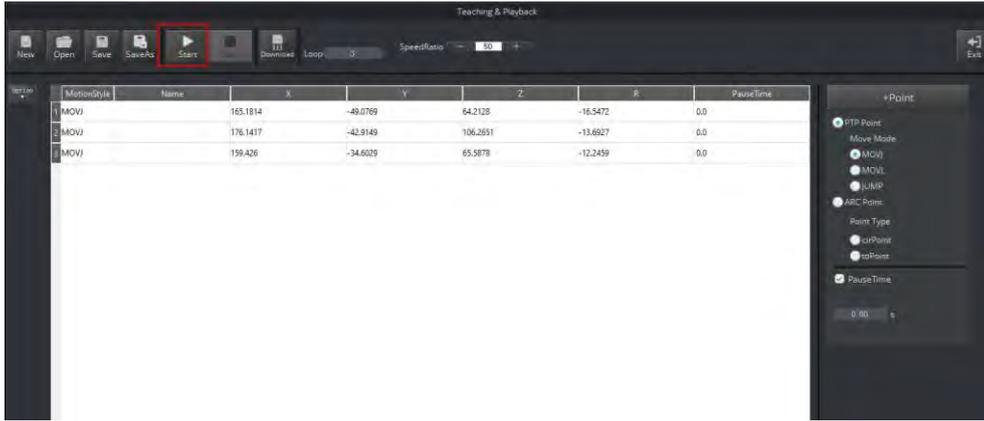

Figure 2.23 Click Start
- Click **Start** to perform the motions taught above, as shown in Figure 2.23. The robotic arm will stop after playing back the steps for three times.